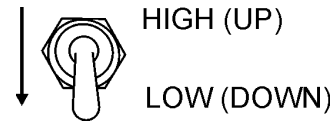

**Figure 72. Emergency Stop Button**
1. **PUSH** inward the **RED** emergency stop button located on the **engine operating panel** (Figure 72) to turn off the generator in the event of an emergency. This button is located on either Engine Operating Panel.